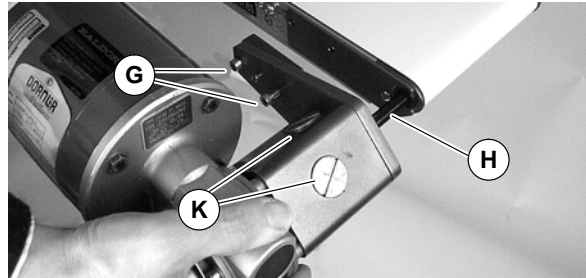

Figure 8
7a. Replace inspection plugs (K of Figure 8). Insert hex shaft (H) into drive pulley hex bushing and slide drive against conveyor. Install two (2) screws (G). Tighten to 80 in-lb (9 Nm).